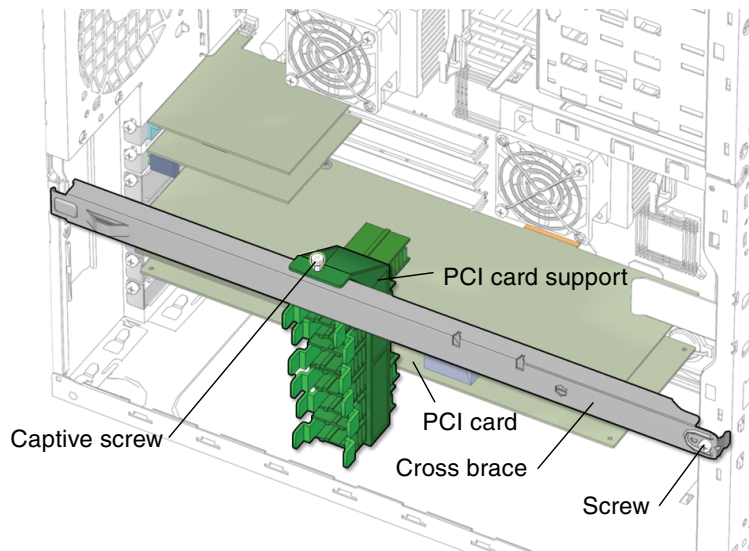

FIGURE 13-47 Aligning the PCI Card Support with the PCI Cards
3. Install the chassis cross brace (FIGURE 13-47).